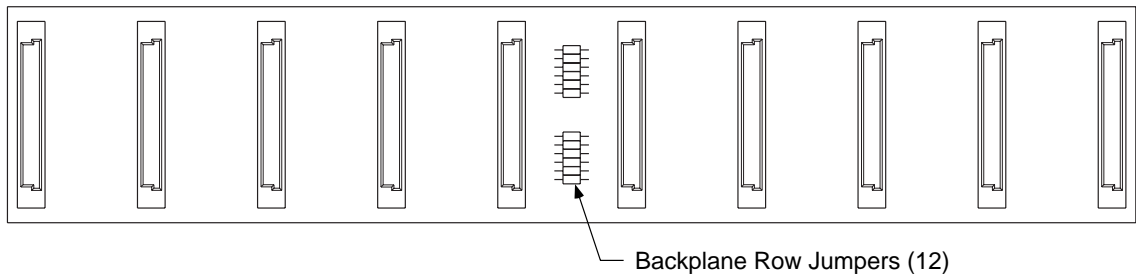

Figure 7-1
2. Refer to Figure 7-1 to locate the 12 backplane row jumpers.